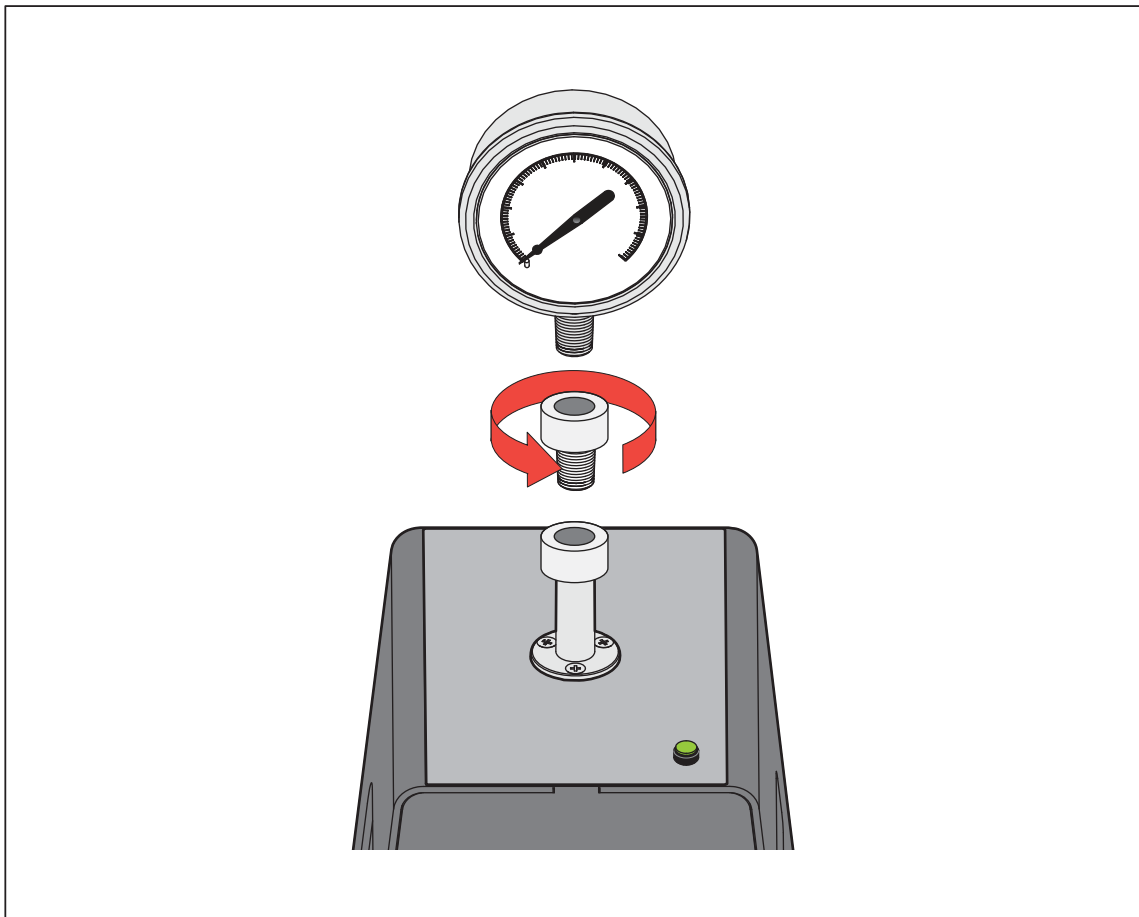

Figure 18. Screw on Gauge Adapter
1. Screw on the appropriate gauge adapter to the UUT, see Figure 18.